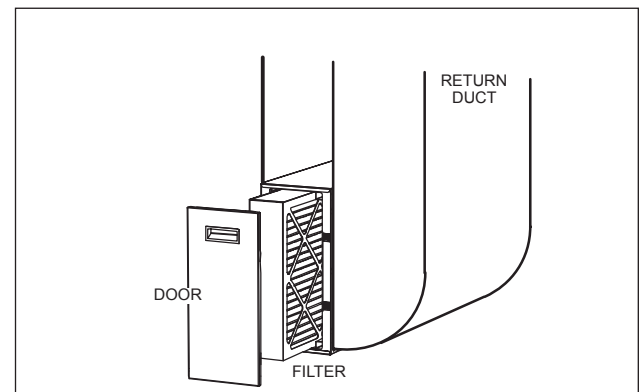

Figure 14. Insert Filter and Attach
8. Slide the filter into the rail land secure the cabinet door (see figure 14).